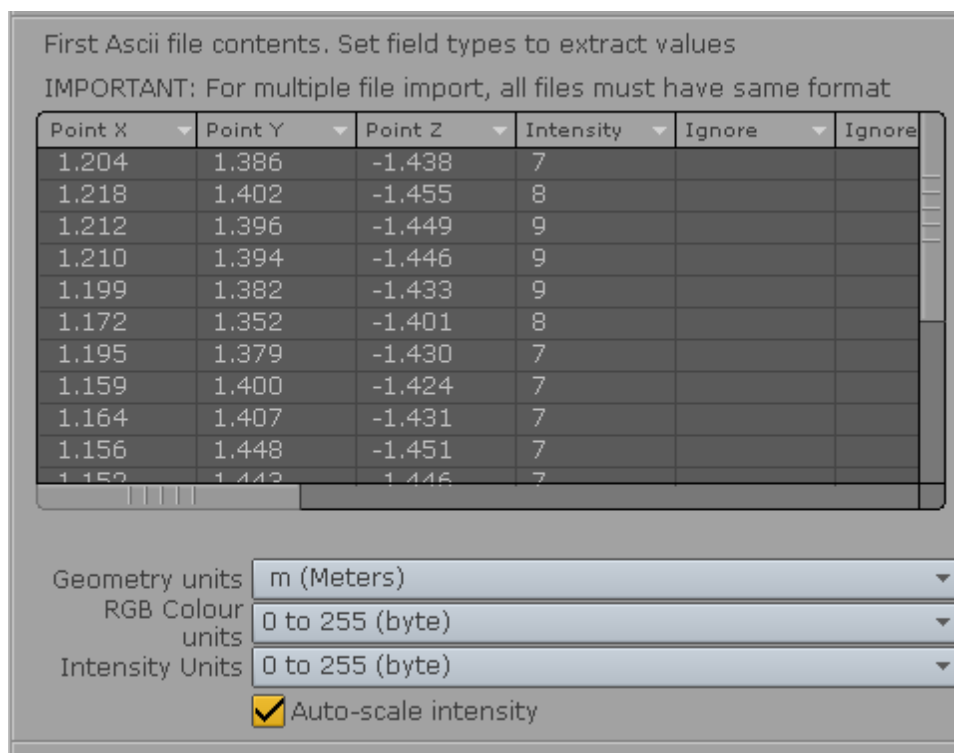

Figure 6.10 – Pointools View Pro Import Options
4. Change Intensity Units from *0 to 1 (floating point)* to *0 to 255 (byte)* (as shown in Figure 6.10) and click Ok.